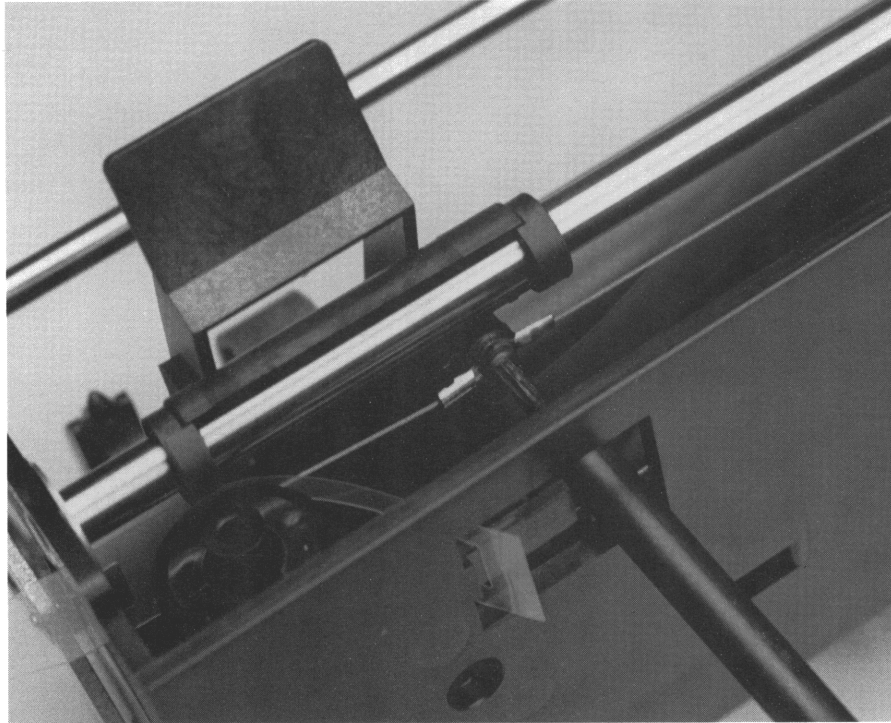

Figure 3-8, Carriage Screw Removal
3. Move the carriage to the full left position and remove the T7 screw that secures the cable to the carriage. The screw can be accessed through the bottom cutout in the mechanism frame. See Figure 3-8.